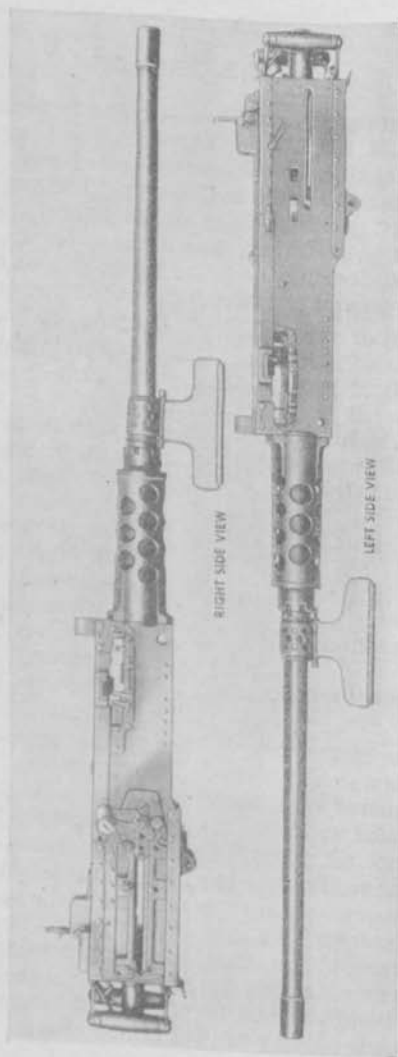

FIGURE 51.—Caliber .50, Machine Gun, HB, M2.
■ 78. CHARACTERISTICS AND DATA.—*a.* The Browning machine gun, caliber .50, HB, M2, is an air-cooled gun having a much heavier barrel than has the water-cooled gun. Its general appearance may be noted in figure 51. The gun is normally fired in short bursts or in rapid single shots. When used in this manner firing may be continued for an appreciable length of time because the heavy barrel retards overheating. Some of the general characteristics of the gun are: